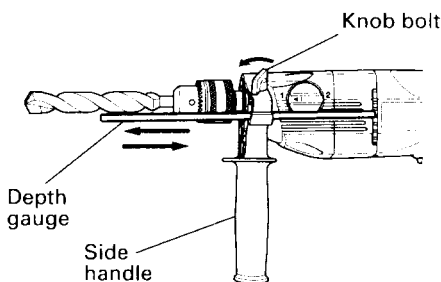

Fig. 6
8. Fixing the side handle (Fig. 6)